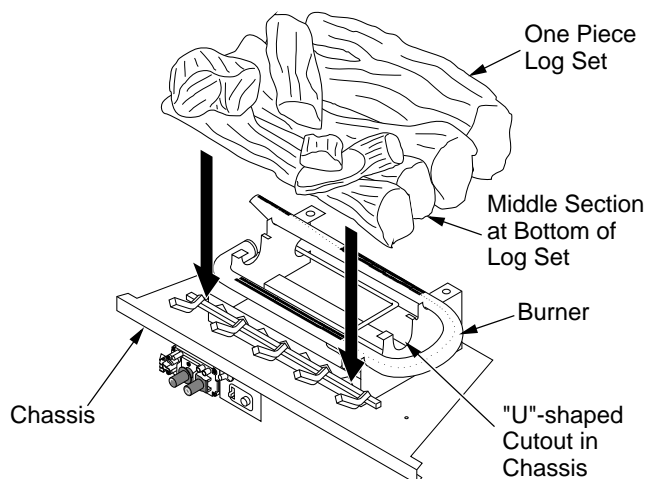
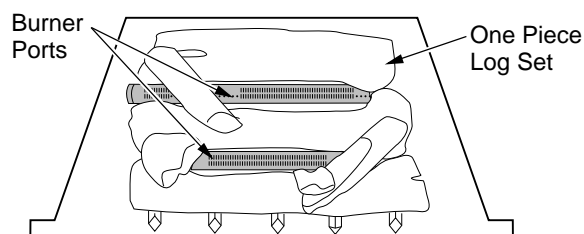

Figure 23 - Installing One Piece Log Set
Figure 24 - Installing One Piece Log Set (Top View)
- Place one-piece log set on grate to fit as illustrated in Figure 23. Make sure middle section at bottom of log set is seated into "U"-shaped cutout in center of chassis (see Figure 24).